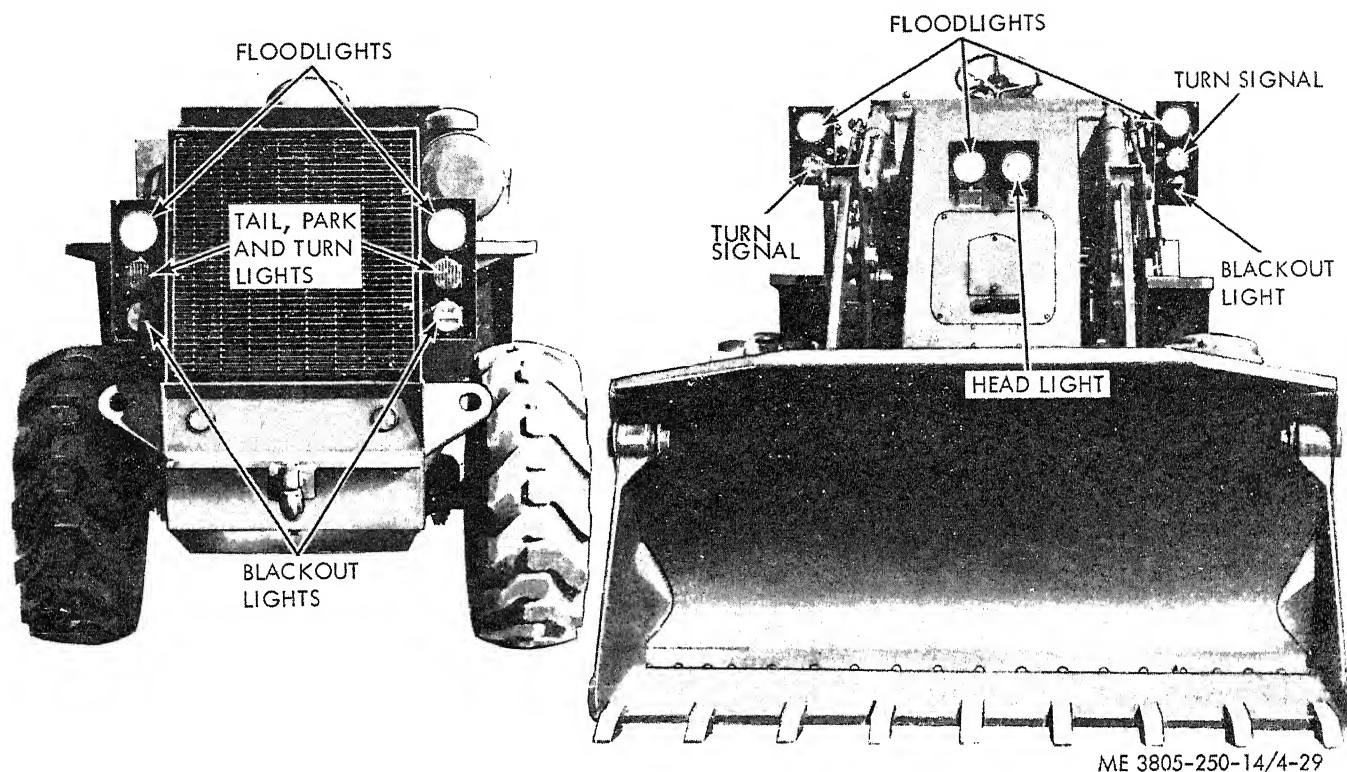

Figure 4-29. Loader exterior lights.
*b. Removal.* Refer to figure 4-29.
(1) Turn the master switch to the off position and disconnect battery ground cable.
(2) Disconnect wires from lights to be removed.
(3) To remove head light, remove nut and washer securing light to its mounting bracket.
(4) To remove front flood lights, remove nut and washer, and remove the light from its mounting bracket.
(5) To remove front park and turn lights remove two screws and lockwashers securing the light to the bracket.
(6) To remove front black-out lights, remove nut, washer, and bearing washer.
(7) To remove rear flood lights, remove nut and washer.
(8) To remove rear stop, tail, and signal lamp assembly, remove two screws and lockwashers.
(9) To remove rear black-out lights, remove screw and lockwasher.